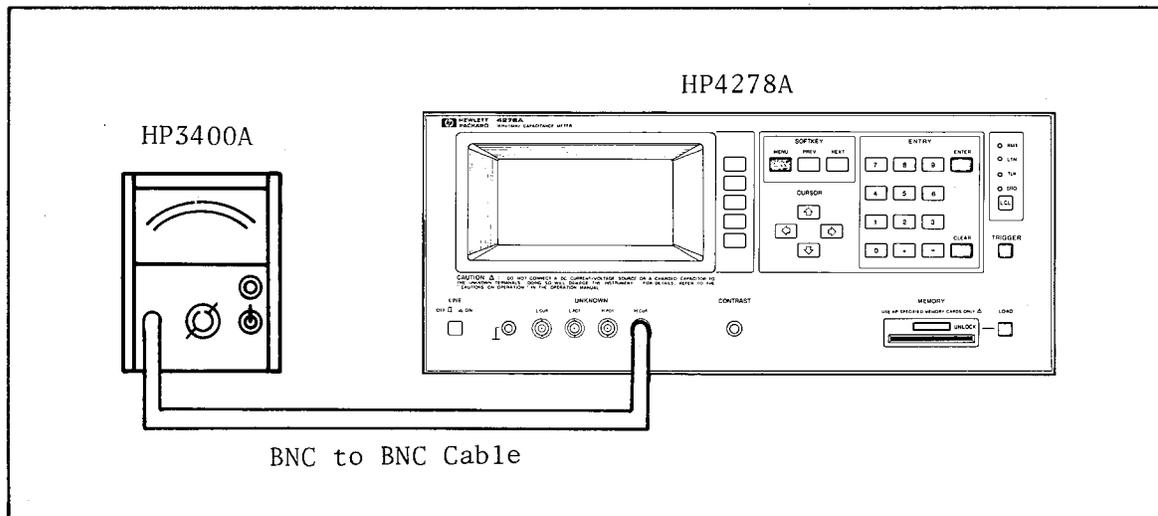

Figure 1-7. Signal Source Adjustments Setup
2. Connect INPUT of the 3400A and the **UNKNOWN** Hcur terminals of the 4278A using the BNC cable as shown in Figure 1-7.